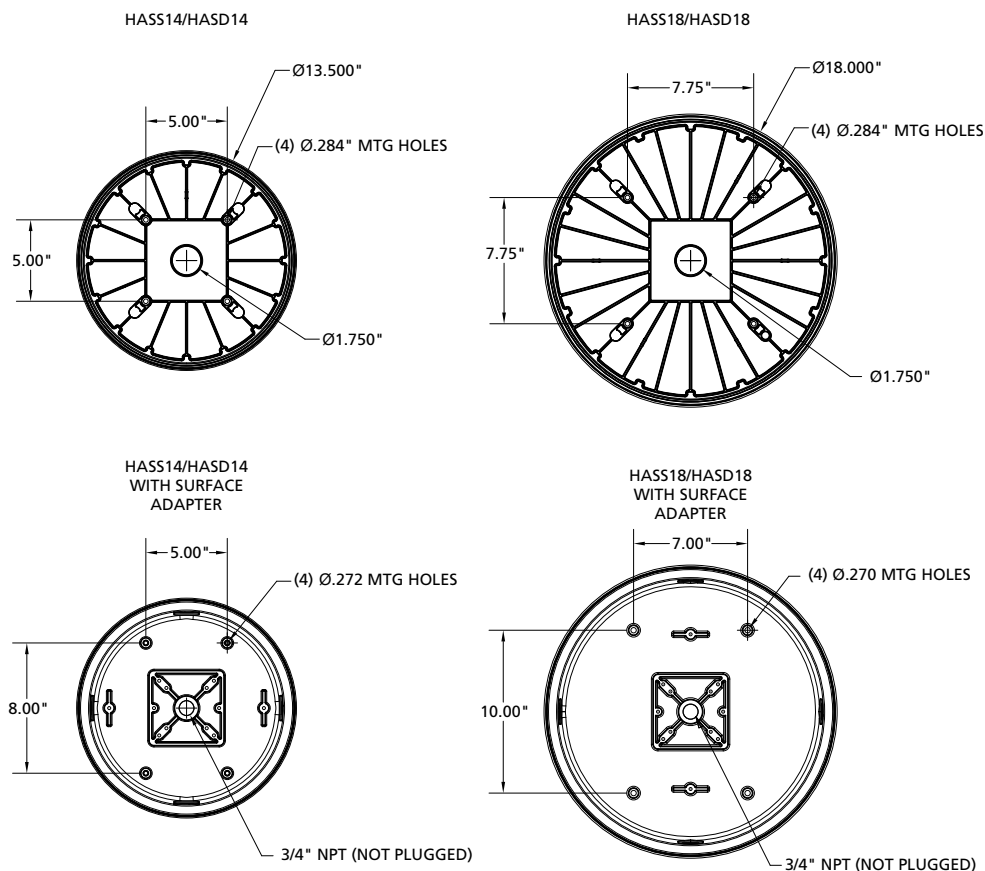

Figure 1
- Prepare mounting surface by locating and drilling pilot holes and installing junction boxes (if applicable). See Figure 1.